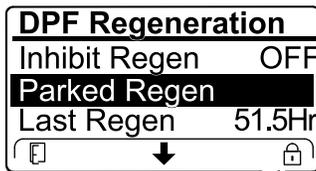

Figure 77
- If the engine computer requests a recovery regeneration or is processing a recovery regeneration and you scroll down to the PARKED REGEN option, parked regeneration locks and the lock icon (Figure 77) appears in the lower right corner of the InfoCenter.